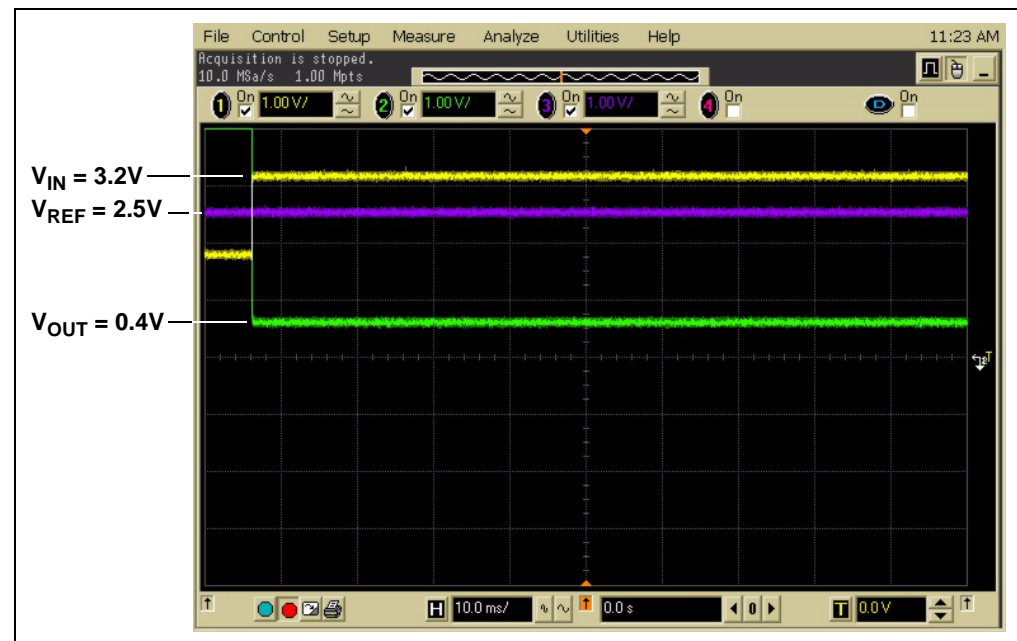

FIGURE 2-15: Measured Step Response.
- The measured step response is shown in Figure 2-15. It is a signal with a step amplitude of 4.2V and a center voltage of 2.5V. (i.e. V_{OUT} starts 2.1V above center and ends 2.1V below center)